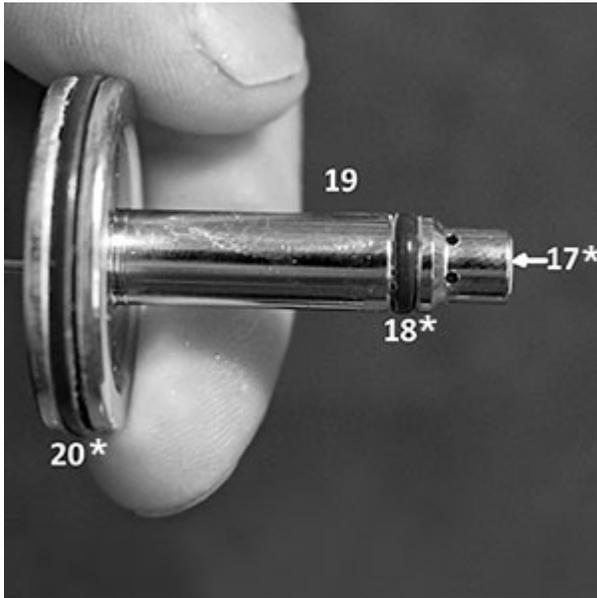

Fig. 15
10. Using a 1.27mm hex key, push the HP seat (17*) from the end of the piston. Then using the pinch method, remove the O-ring (20*) from the end of the Piston - Figs. 15 and 16. Using a thin brass pick, carefully remove the O-ring (18*) from the piston shaft. This O-ring is quite stiff and may break upon removal.